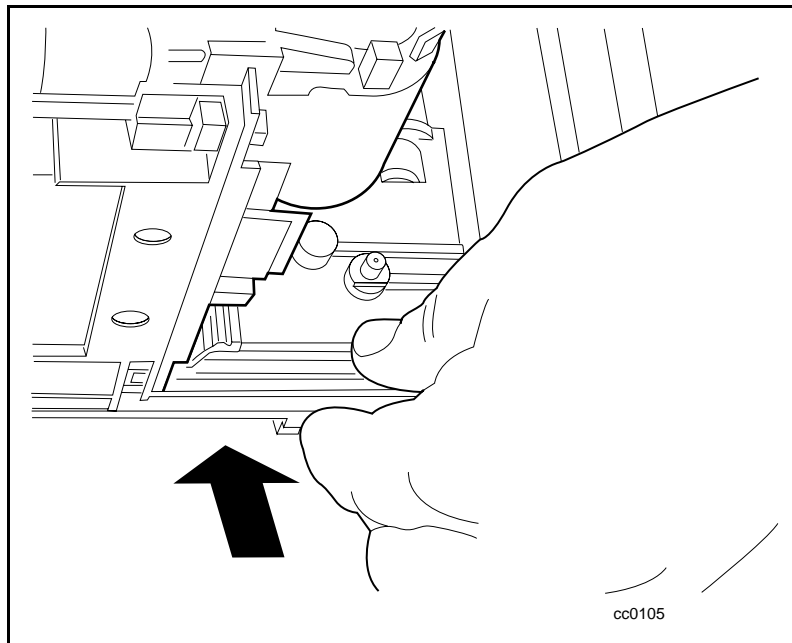

Figure 5-35. Pushing the shuttle mechanism
7. Pushing only from the base, move the shuttle mechanism back half way (see Figure 5-35).
3. Move the shuttle mechanism forward, pushing from the base. Do not push on the top of the mechanism (see Figure 5-35).